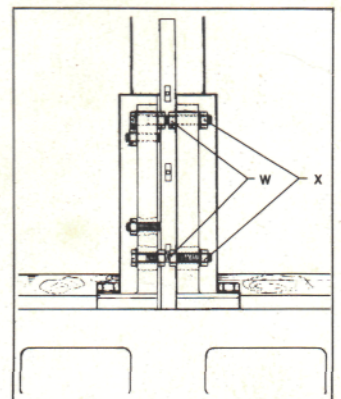

Fig. 22a
- (ii) Turn the elevating handle to move the column up and down. If base is seen to be slack around the column, adjust by unscrewing the two nuts W (Fig. 22a) until the correct fit has been achieved. Avoid binding by overtightening.